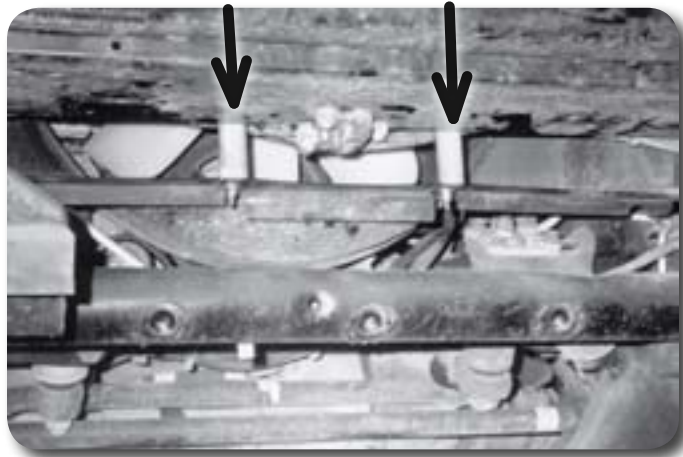

Figure 21
40. Using "L" brackets as templates, mark and drill two 5/16" holes in the fan shroud. Mount fan shroud to the brackets with 1/4" x 1" bolts, nuts and 1/4" USS washers **Figure 21**.